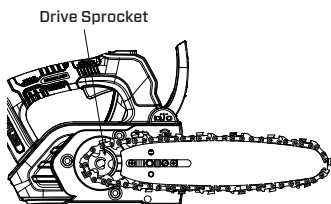

Fig. 3
3. Install the guide bar and the saw chain on the drive sprocket (Fig.3). Adjust the